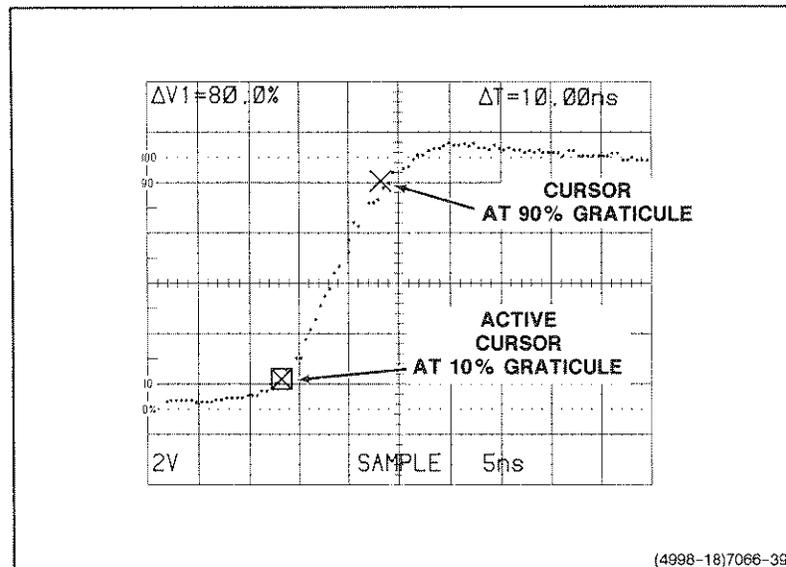

Figure 6-18. Rise time, cursor method.
9. Push in the CURSORS knob (SELECT C1/C2) to select the other cursor, and use the CURSORS control to move the active cursor up the waveform's leading edge until the ΔV readout is 80% (see Figure 6-18).